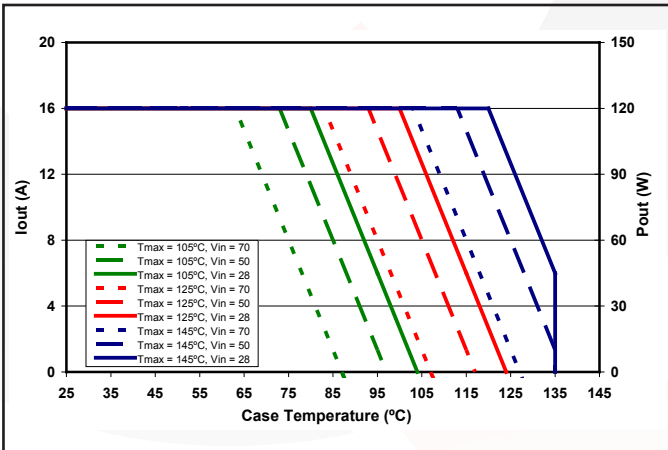

Figure 5: Output Current / Output Power derating curve as a function of T_{case} and the Maximum desired power MOSFET junction temperature (see Note 14).
2. Derate output power for continuous operation per Figure 5.